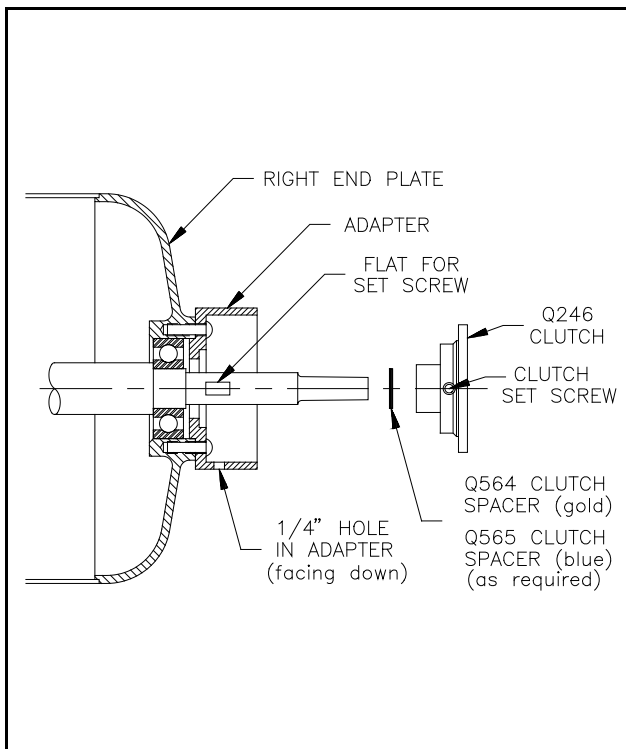

Figure 9. Cross section view
- 4.5 Check that the 1/4" hole in the side of the adapter is facing down. See Figure 9. Install the other two screws and firmly tighten all four.